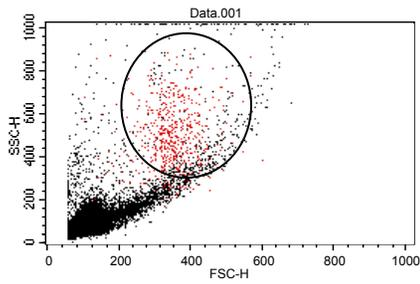
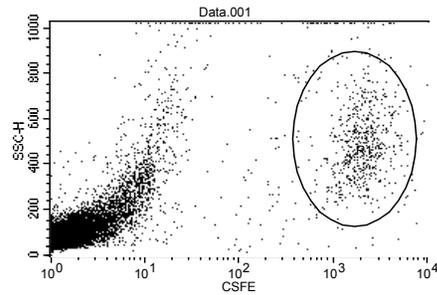

Figure 4a: Control A, FSC vs. SSC
Figure 4b: Control A, FL1 vs. SSC
**Control A:** Using a control tube containing CFSE-stained target cells and effector cells (E+T), create a forward scatter (FSC) vs. side scatter (SSC) plot (Figure 4a). Large cells, like K562 cells (circled) are easy to distinguish from lymphocyte effector cells. Also create a FL1 (CFSE) vs. SSC scatter plot (Figure 4b). This plot becomes particularly important when gating on target cells that are the same size as effector cells. Create 2 tubes, or rerun as in Figure 8.